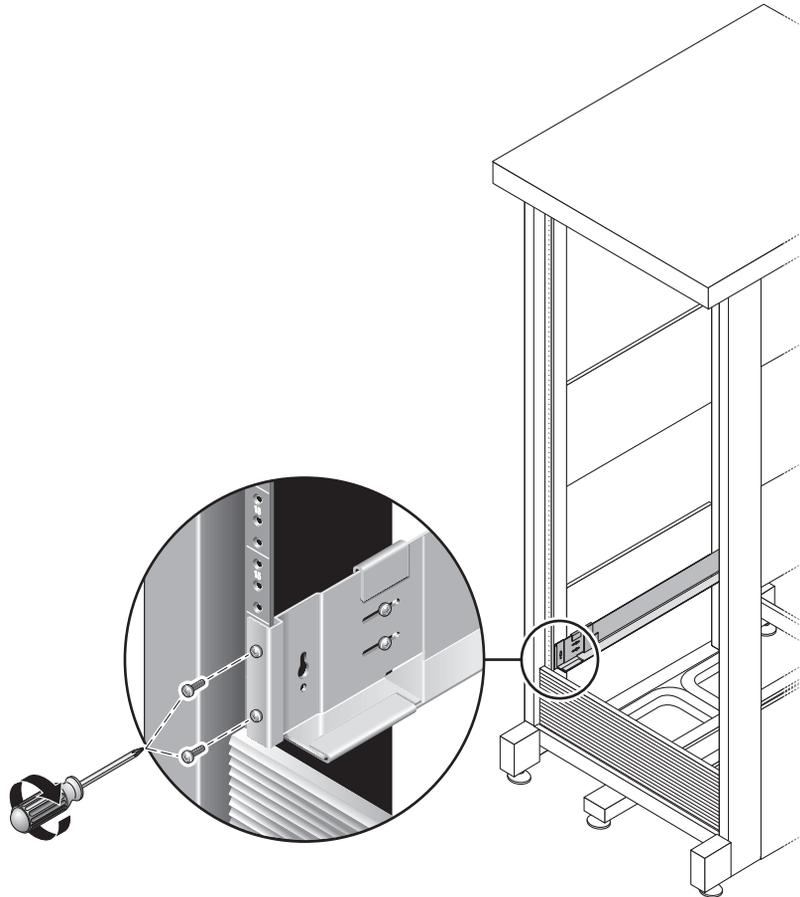

FIGURE 2-11 Securing the Right Rail to the Back of the Cabinet
5. Using the #3 Phillips screwdriver, insert and tighten the M6 screws on each side at the back of the rail (FIGURE 2-11).